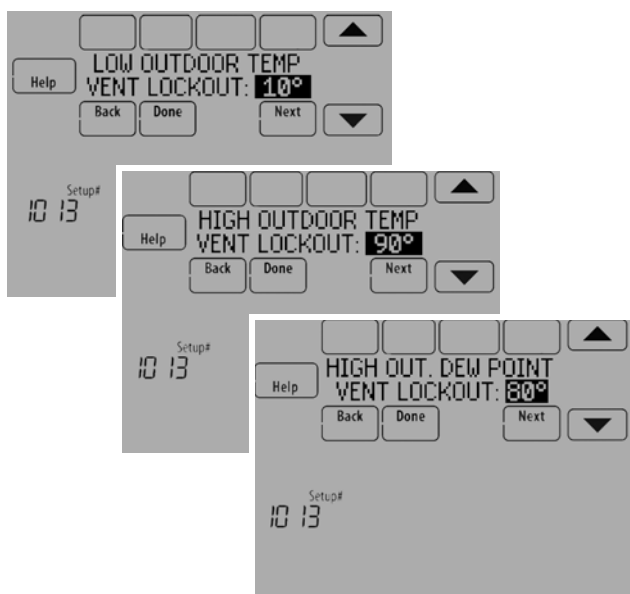

Fig. 234.
9. Select the Outdoor Condition Lockouts. See Fig. 234. See "Ventilation — Outdoor Condition Lockouts (ISU 1013)" on page 91 for more information.